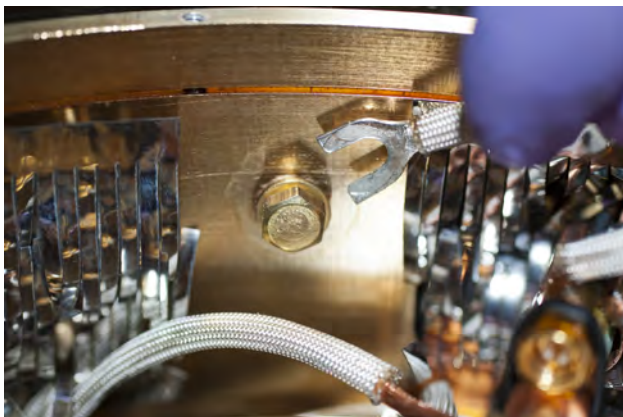

FIGURE 5-4 Left: Slide the spade lug under the hex screw head and washer; Right: Tighten the hex screw
- b. Slide the spade lug under the hex screw head and washer (FIGURE 5-4).
- c. Using the 8 mm wrench, tighten the hex screw (FIGURE 5-4).